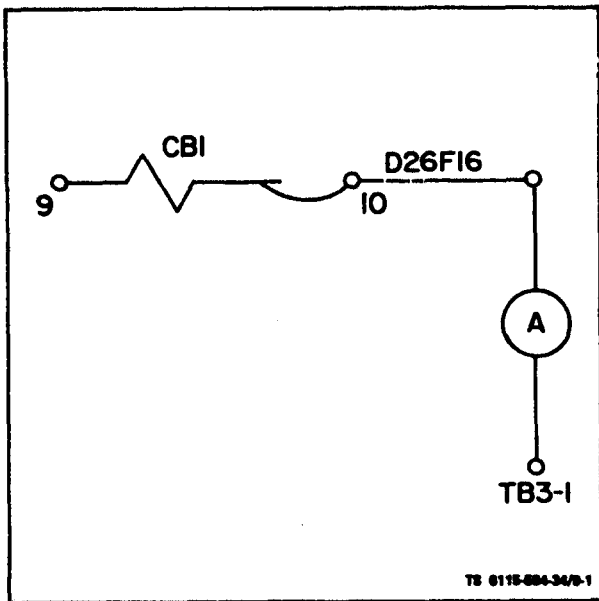

Figure 9-1. Adjusting R3 Resistor
- a. Remove wire D26F16 from TB3- 1 and connect 0 to 1 amp ac test ammeter as shown in figure 9-1.